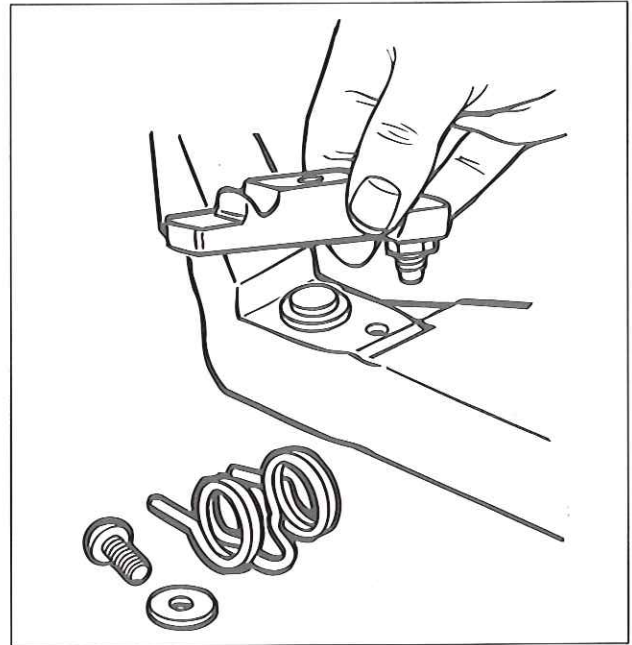

FIG. 57
6. Reinstall all components. Install the bridge with the leveling screw toward the center of the housing (see Fig. 57).